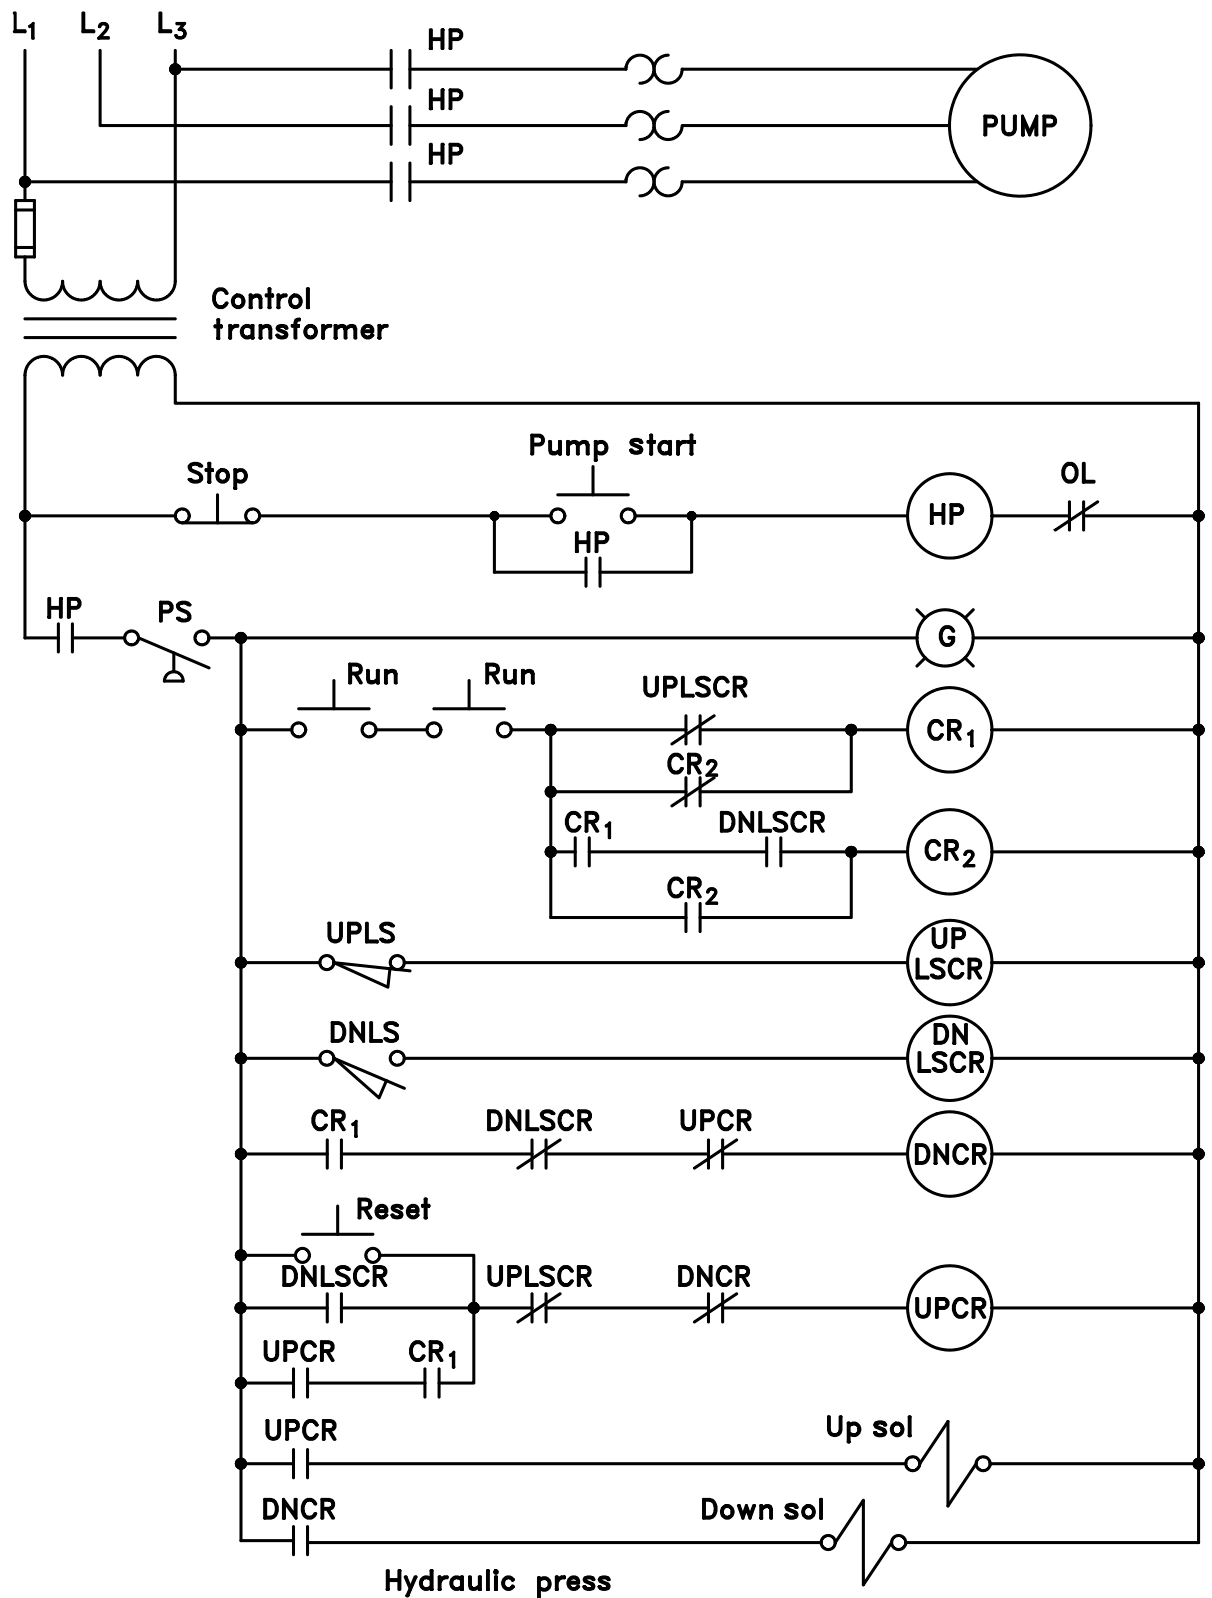

Figure 36-1 Hydraulic press.
The next circuit to be discussed is a control for a large hydraulic press (Figure 36-1). In this circuit, a hydraulic pump must be started before the press can operate. Pressure switch PS closes when there is sufficient hydraulic pressure to operate the press. If switch PS should open, it will stop the operation of the circuit. A green pilot light is used to tell the operator that there is enough pressure to operate the press.
1. Refer to the circuit shown in Figure 36-1. Count the number of contacts controlled by each of the control relays to determine which should be 11-pin and which should be 8-pin. Relays that need three contacts will have to be 11-pin, and relays that need two contacts may be 8-pin.
3. Place the pin numbers on the schematic in Figure 36-1 to correspond with the contacts and coils of the control relays. Circle the numbers to distinguish them from wire numbers.